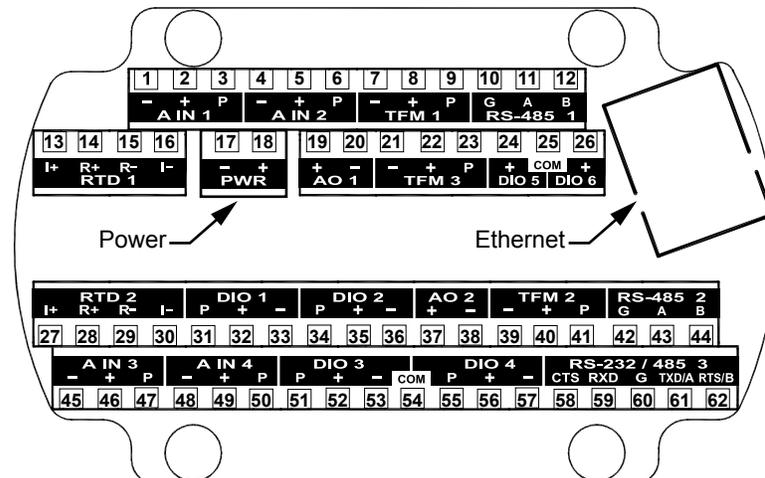

Figure 4.8—Terminal board illustration showing Ethernet port and Power terminal block location
- g. Connect the Ethernet cable to the Ethernet port on the Scanner 3100 terminal board (shown in Figure 4.8).
- c. Verify that the F1 and F2 fuse housings on the power block are open (Figure 4.8, page 71).